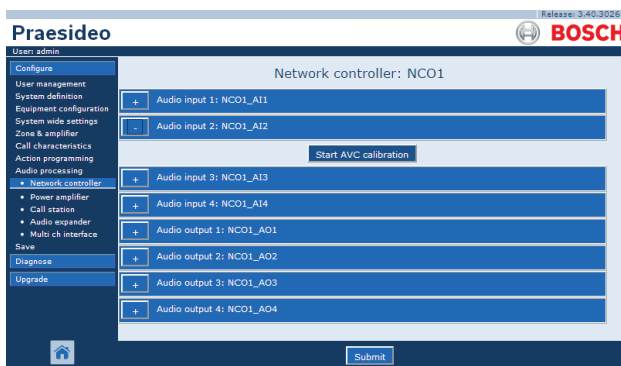

figure 49.2: AVC calibration button
- 9 Go to the *Audio processing* page of the audio input to which the sensing microphone is connected. A screen similar to the one in figure 49.2 appears.